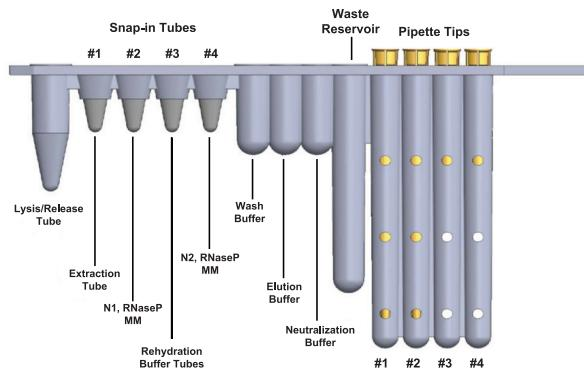

Figure 1: Snap Extraction Tubes and Master Mix Tubes into Unitized Reagent Strip
5. For each specimen to be tested, place one (1) Unitized Reagent Strip on the BD MAX System Rack. Assemble the strip as in Figure 1: